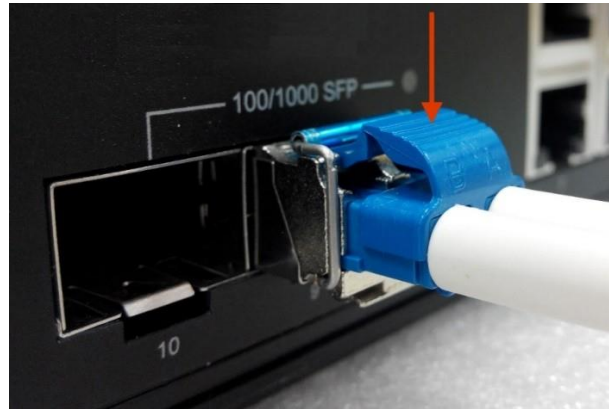

Figure 2.4: Remove LC Connector
Step 1 Press the upper side of the LC connector from the transceiver and pull it out to release as shown below in Figure 2.4